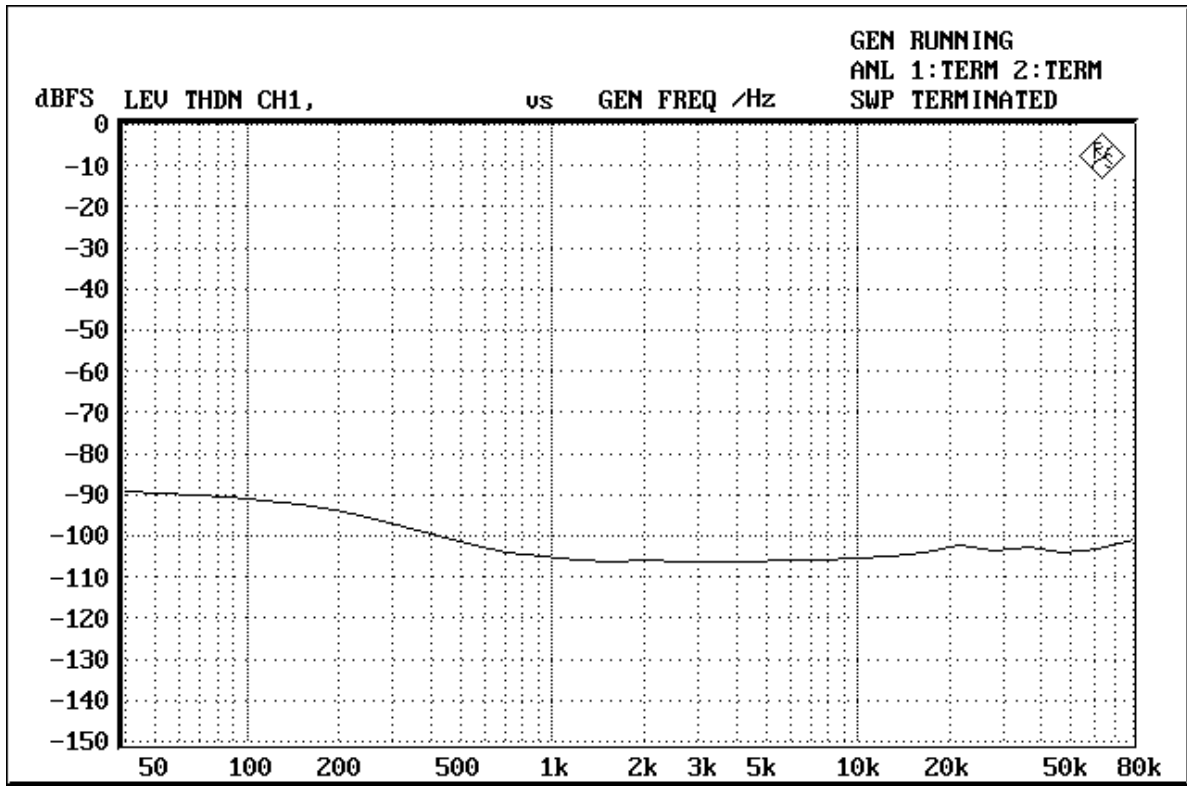

Figure 2-1-4. THD+N vs Input Frequency (-1dB input)
- Figure 2-1-4. THD+N vs Input Frequency (-1dB input)